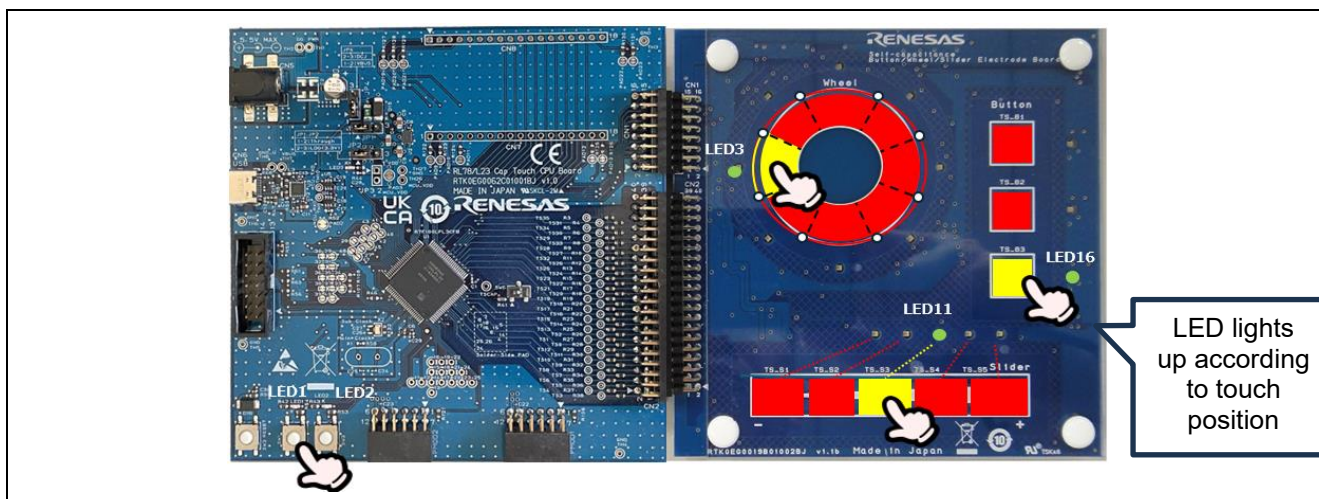

Figure 1-2 LED Control in Conjunction with Capacitive Touch Buttons, Sliders, and Wheel Movements
2. The LEDs are controlled in conjunction with the operation of the three buttons, wheel, and slider on the touch electrode board. (See Figure 1-2). LED control is performed in conjunction with the push button on CPU board. Pressing SW1, LED1 lights up. Pressing SW2, LED2 lights up. (See Figure 1-2)